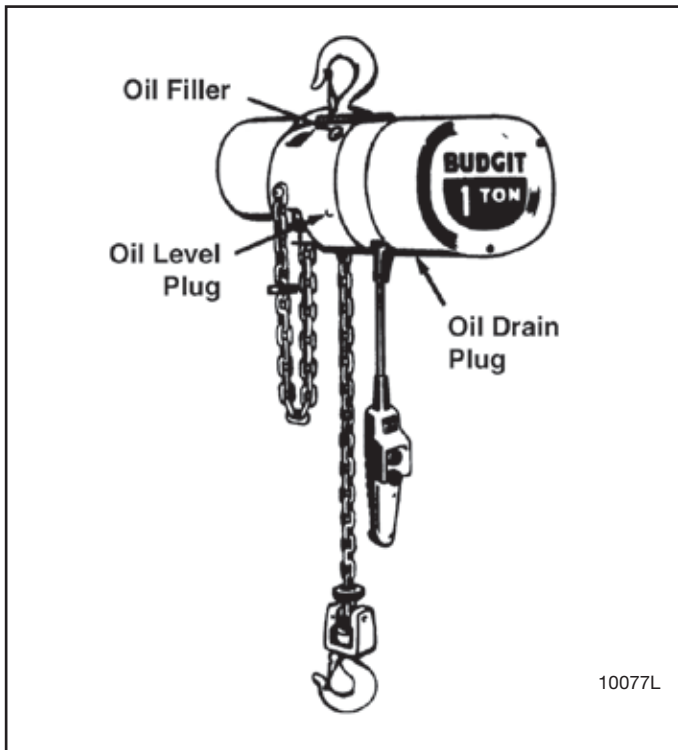

Figure 4-1. Location of Oil Filler and Plugs
4-2. CHANGE GEAR CASE OIL (Fig. 4-1).
(1) Check to see that bolts securing motor to frame are tight. Also check for any visible damage to motor, such as a cracked end bell or dented stator housing. Replace damaged parts.
(2) Check hoist frame for signs of visible damage. If frame shows evidence of fracture, the hoist should be disassembled and inspected for further signs of damage from possible overloading. Replace damaged parts.
(3) Check for possible damage to electrical compartment cover. Be sure screws holding cover are tight.
**e. Check Oil Level.** Remove oil level plug (fig. 4-1). If oil level is not even with bottom of tapped hole, add Automatic Transmission Fluid, DEXRON Type, to bring to proper level.